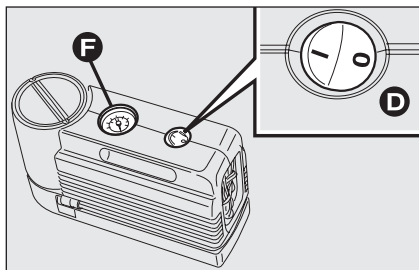
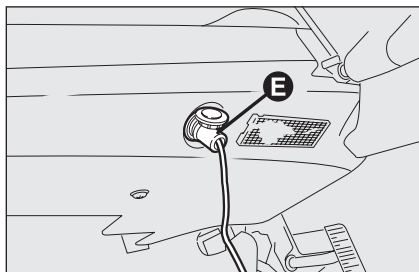

fig. 5
fig. 6
- make sure the compressor switch **D**-fig. 5 is set to 0 (off), start the engine and fit plug **E**-fig. 6 into the nearest current outlet and then turn on the compressor by setting switch **D**-fig. 5 to **I** (on). Inflate the tyre to the pressure specified in paragraph “Inflation pressure” in section “Technical Specifications”.
Check tyre pressure on gauge **F**-fig. 5 with compressor off to obtain precise reading;